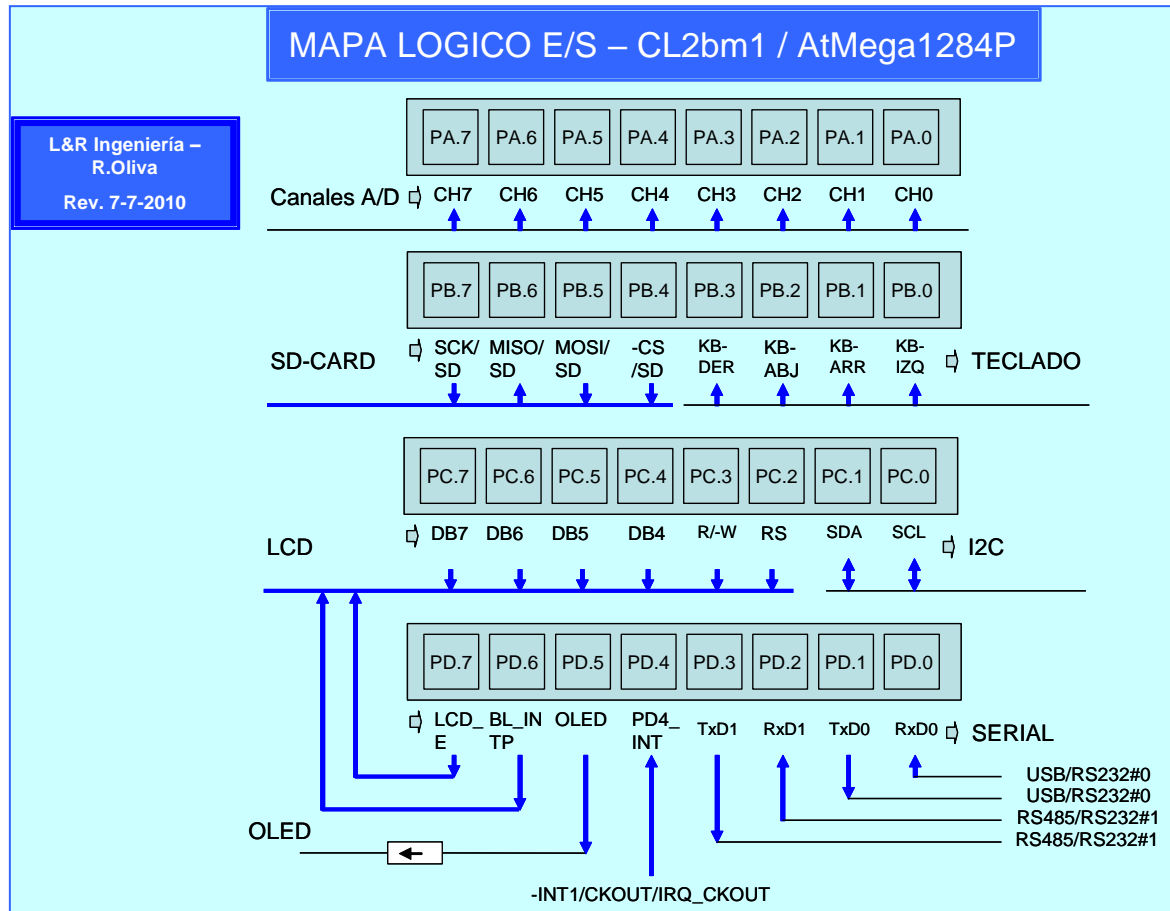

Figure 3 – Programming model of the CL2bm1 board for ATmega1284P
2.b Programming model The ATmega1284P controller on CL2bm1 can be programmed in C or C++ using compatible cross-compilers. Following examples in Section 3 will use CodevisionAVR from HPInfoTech [ref01], only available for Windows 7-10. Future examples will use VSC+PIO [ref04] [ref05], and the classical Arduino IDE[ref06], all available also on Ubuntu to show slight differences. Programs are compiled on a standard PC and downloaded to the board via:
- The pre-loaded, modified Optiboot [ref07] bootloader mentioned in Section 1, which works through the COM0 port.
The CL2bm1 programming interface is as shown on Figure 3. The 8 ADC channels are general purpose 10-bit resolution using the internal AVR SAR analog to digital converter [ref13], if greater resolution is required 3 13-bit ADC inputs are available on the M4/E
Example3: (/lcdserialanalog) Builds on Example 2 and adds the alphanumeric LCD interface shown in Figure 3. This example uses the low level /drivers/lcd/lcd4x20 routines, but configured for a simple 2x16 LCD. It also uses a higher level /modules/display set of routines, which “isolates” the display requirements from the specific display hardware.